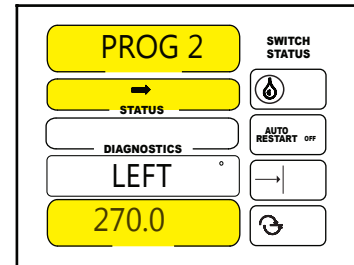

Figure 60-3
2. Set left angle of sector and the direction. See figure 60-3.